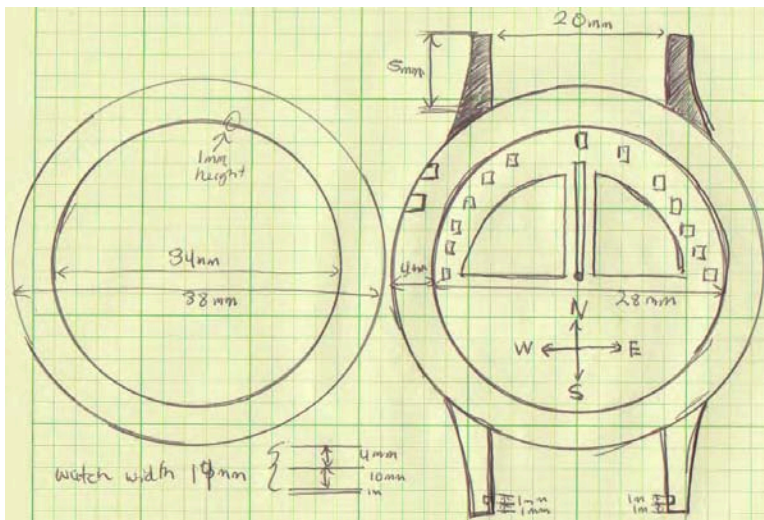

Figure 6–16. Sketch of sundial watch
2. Extrude this circle down by 1mm (Figure 6–17a).